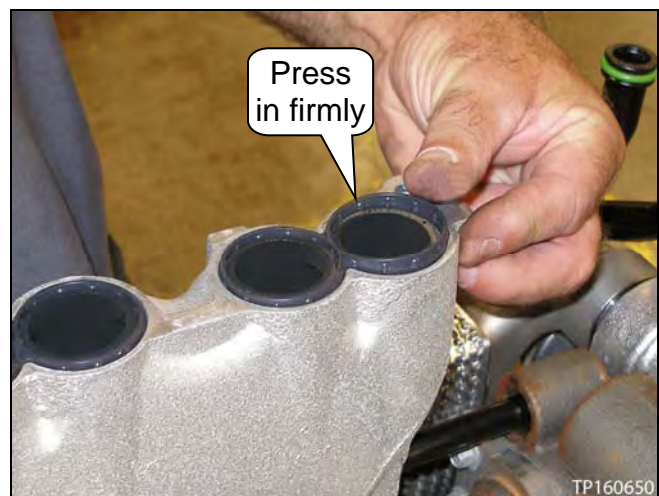

Figure 76
- Make sure all O-rings are in place and properly seated (see Figure 76).